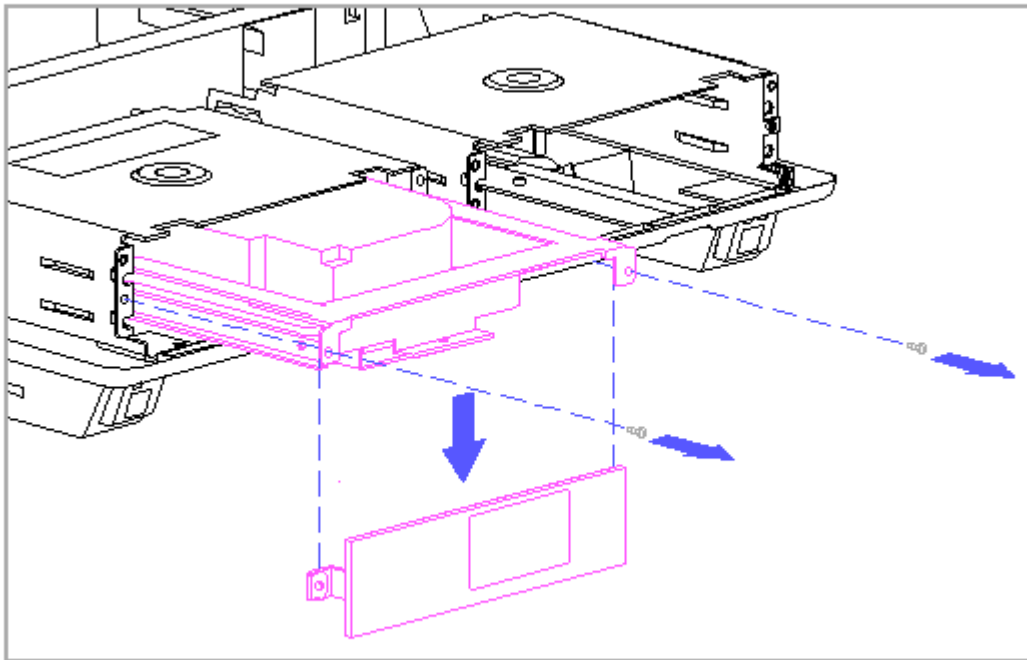

Figure 9-28. Preparing to Remove a Drive
the front of the drive bay (Figure 9-28).
3. Pull the drive halfway out to access the drive cables (Figure 9-28).